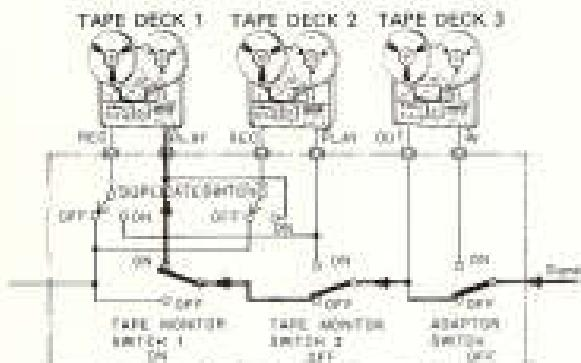

Fig. 21
- According to the TAPE PLAY (1, 2) or ADAPTOR IN jacks to which the tape deck is connected, either the TAPE MONITOR 1 or 2 switches or the ADAPTOR switch should be set to ON (see Fig. 21).